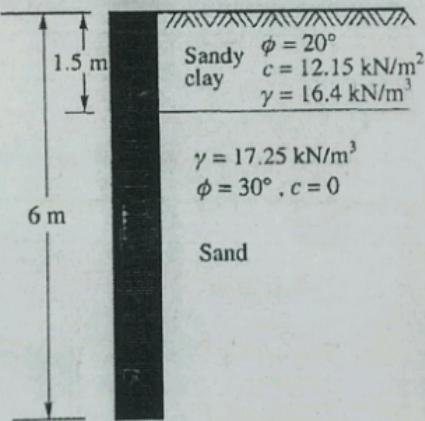

Figure 4.
7. A. A rigid retaining wall of 6 m height (Figure 4) has two layers of backfill. The top layer to a depth of 1.5 m is sandy clay having $\phi = 20^\circ$, $c = 12.15$ kN/m² and $\gamma = 16.4$ kN/m³. The bottom layer is sand having $\phi = 30^\circ$, $c = 0$, and $\gamma = 17.25$ kN/m³. Determine the total active earth pressure acting on the wall and draw the pressure distribution diagram. (6)